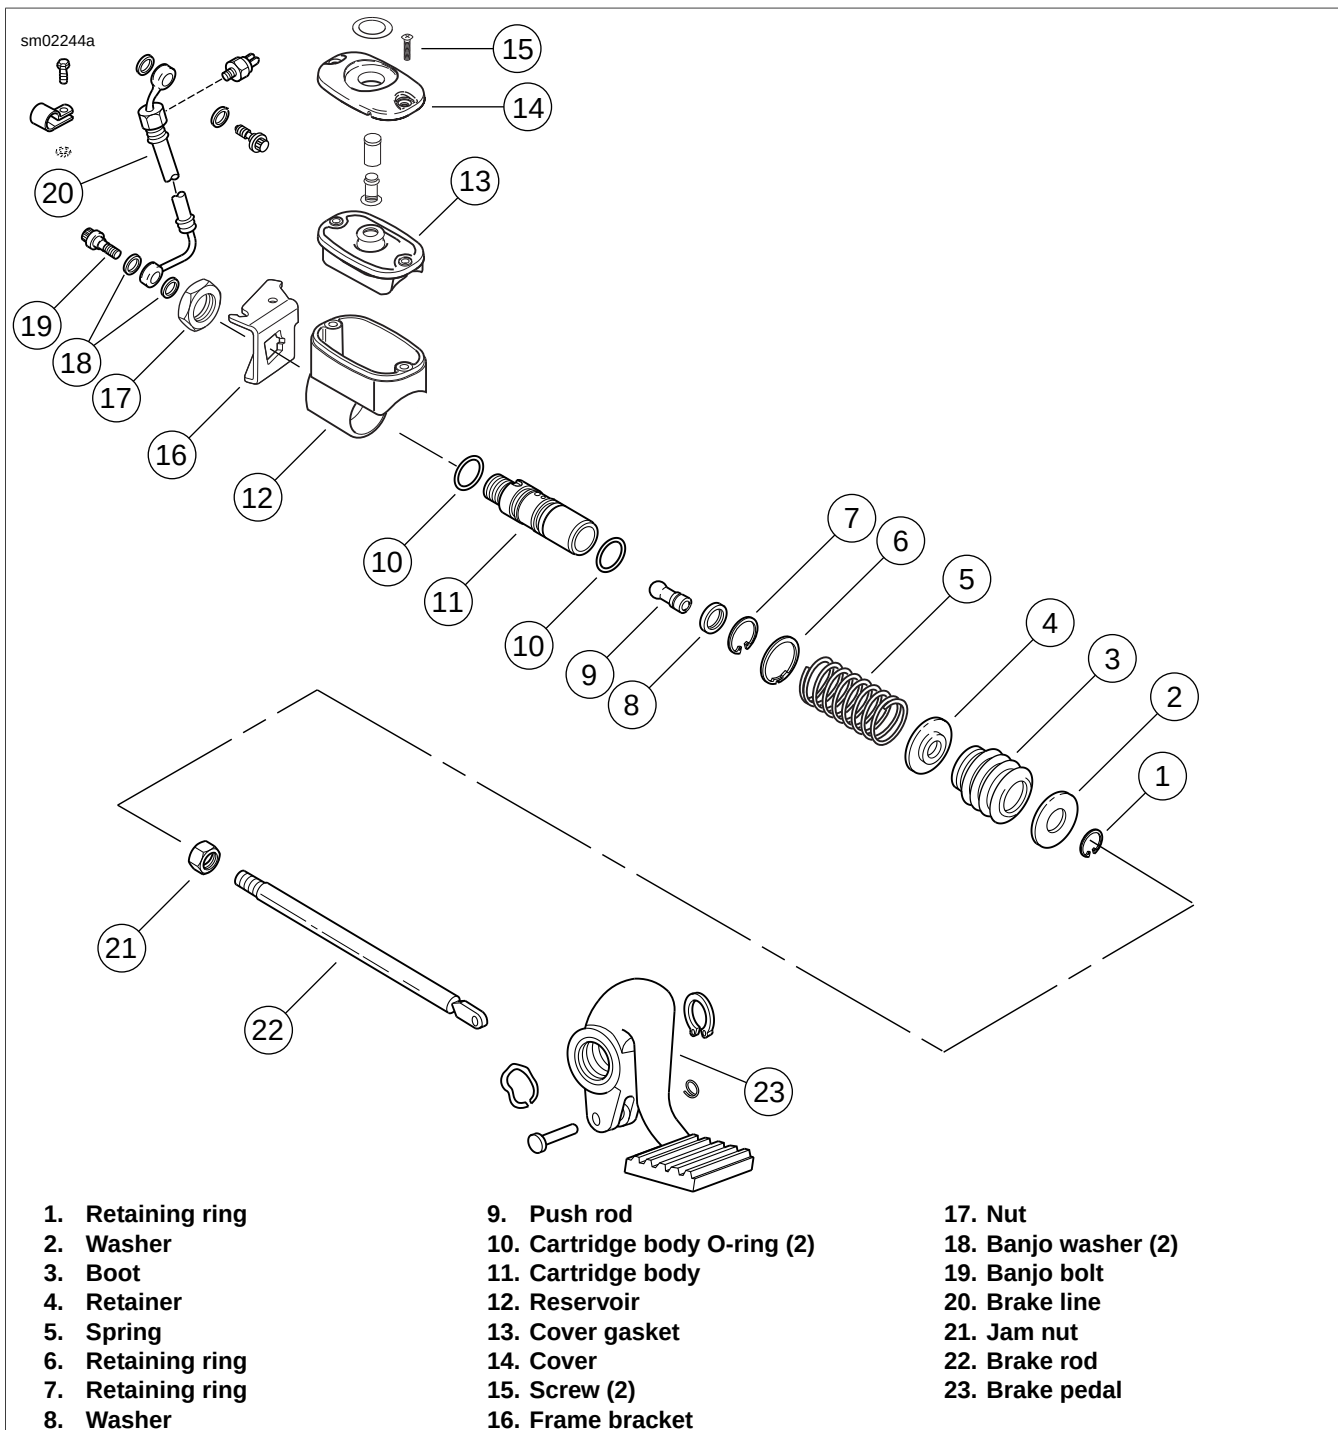

Figure 2-74. Rear Brake Master Cylinder
1. See Figure 2-74. Remove banjo bolt (19) and banjo washers (18). Discard washers.
2. Remove master cylinder mounting nut (17).
3. Loosen jam nut (21) on threaded brake rod (22).
4. Unscrew push rod (9) from brake rod.
2. See Figure 2-74. Thread banjo bolt (19) into the cartridge body (11).
3. Remove boot (3) from groove in master cylinder/reservoir (12). Set master cylinder/reservoir upright with banjo bolt (12). resting on bench and push master cylinder/reservoir down and off the cartridge body.
5. Press down on large washer (2) to compress spring (5), keep spring compressed and remove retaining ring (1) from groove in push rod (9).
6. Carefully release spring and remove washer, boot, spring retainer (4) (inside boot) and spring.
7. Remove and discard retaining ring (7) from bore of cartridge body and remove push rod and washer (8).
2. See Figure 2-74. Inspect reservoir bore (12) for scratches. Replace if scratches are present.
3. Check boot (3) for tears and replace if any exist.
4. Inspect threads on cartridge body (11), push rod (9) and banjo bolt (19). Replace any part with damaged threads. Inspect spring for cracks or broken coils - replace if any exist.
5. Carefully remove large O-rings (10) from cartridge body. Do not scratch O-ring grooves. Clean grooves with soft cotton cloth moistened with alcohol. Inspect grooves for scratches and dirt. Remove dirt or replace cartridge body if grooves are scratched.
1. See Figure 2-74. Lubricate O-rings (10) with D.O.T. 4 brake fluid and install in O-ring grooves on cartridge body (11).
2. Lubricate bore of master cylinder/reservoir (12) with D.O.T. 4 brake fluid.
4. Thread banjo bolt (19) into cartridge body and stand master cylinder upright with banjo bolt resting on bench.
5. Place washer (8) on push rod (9).
6. Place a **new** retaining ring (7) on push rod. Insert ball-end of push rod into piston. Push piston downward with push rod until washer is properly seated in the cartridge bore.
9. Install retaining ring (6) in groove on cartridge body.
10. Install on push rod, spring (5), spring retaining washer (4) (large cupped side toward spring), boot (3) with drain hole down, and washer (2).
11. Press down on washer and install retaining ring (1) in push rod groove.
1. See Figure 2-74. Guide threaded end of master cylinder/reservoir (12) through hole in bracket (16). Make sure the square body of the master cylinder/reservoir is engaged in the square hole of the mounting bracket.
2. Install nut (17) and tighten to 30-40 ft-lbs (40.7-54.2 Nm).
3. Thread push rod (9) fully onto brake rod (22). Do not tighten jam nut (21) at this time.
4. Lubricate new steel/rubber washers (18) with D.O.T. 4 BRAKE FLUID. Install brake line (20) using banjo bolt (19) and new steel/rubber washers (18). Position brake line and tighten banjo bolt to 21-25 ft-lbs (28.5-33.9 Nm).